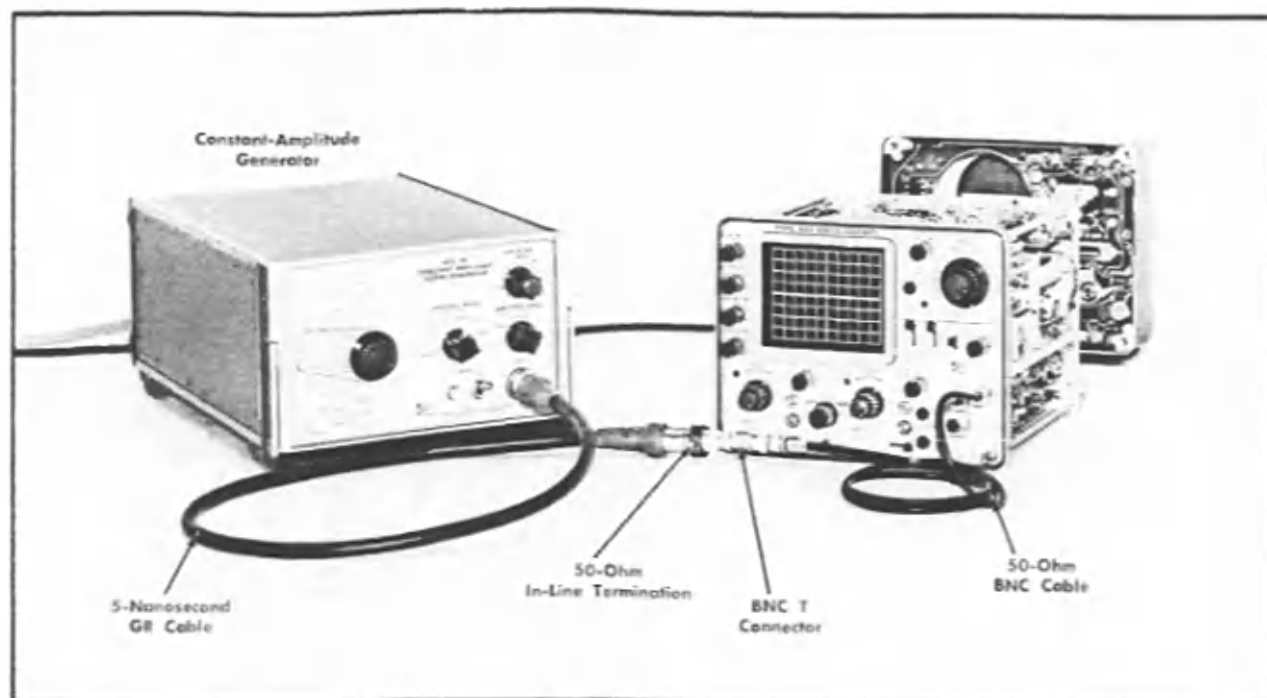

Fig. 6-37. Initial test equipment setup for steps 34 and 35.
- Test equipment setup is shown in Fig. 6-37.